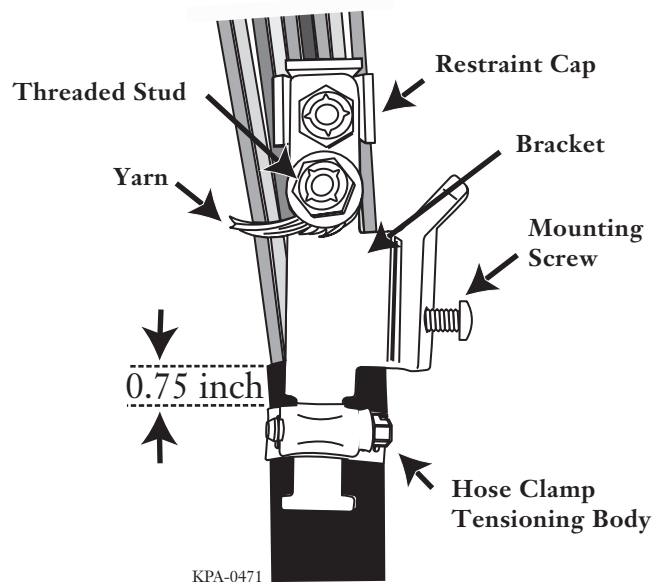

Figure 27 — Drop Strain-relief Bracket
**Step 3** Tighten the hose clamp in the notch on the bracket with the tensioning body on the hose clamp on the same side of the bracket as the threaded stud (Figure 27). Tighten hose clamp to a torque value of 30 in-lb.
**Step 5** Insert the restraint cap threaded stud through the hole in the strain-relief bracket, capturing the central strength member between the two (Figure 27).
**Step 7** Wrap the aramid yarn, if present, twice in a clockwise direction around the threaded stud on the bracket (Figure 27).